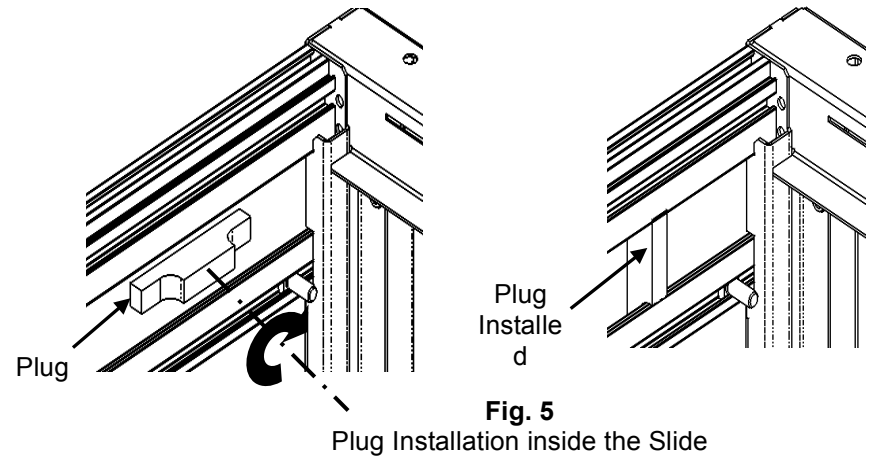

Fig. 5
3. Insert (4) Plugs in slide channels and push behind rails to block airflow between the slide and rails (Fig. 5).